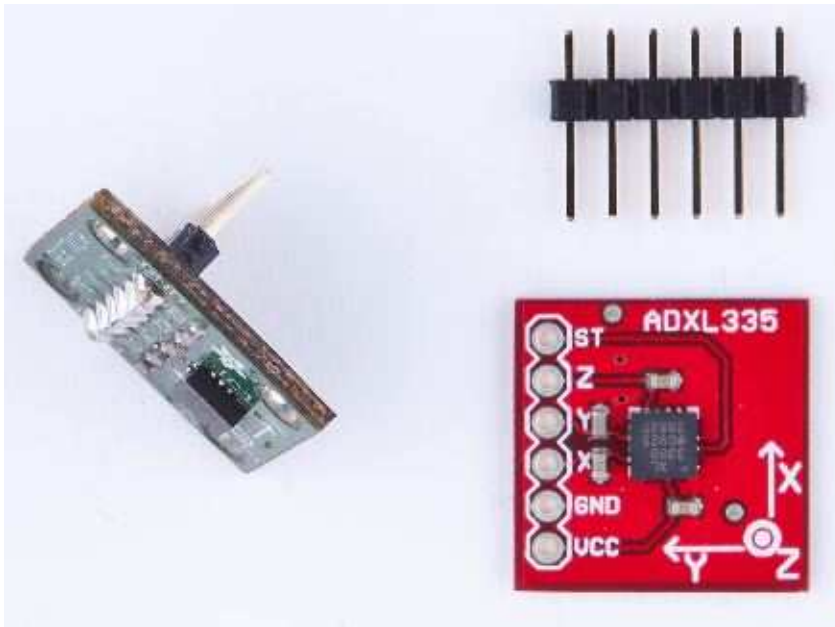

Figure 6.2: An ADXL335 sensor on a breakout board
In Figure 6.2, you see a breakout board containing an ADXL335 sensor on the right. The sensor is the small black integrated circuit (IC), and the rest is just a carrier to allow connections. On the top, you see a 6 pin 0.1" standard header. The sensor has six connectors labeled GND, Z, Y, X, 3V, and TEST. To use the sensor on a breadboard, solder the standard header to the connectors. This not only makes it easier to attach the sensor to a breadboard but also stabilizes the sensor, so it